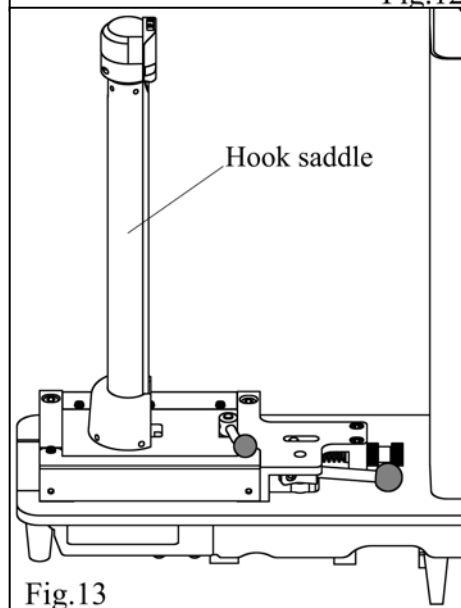
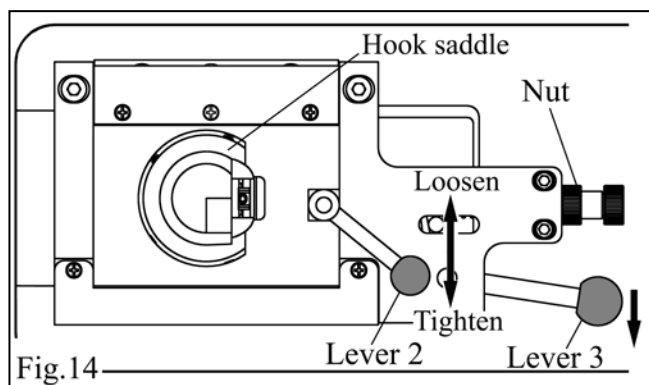

Fig.13
Fig.14
(1) Set the stitch length to “7” on the stitch length dial.
(2) When the needle is lifted 2.4mm from the lower dead point, the following positional relationship should be maintained:
12. TILT THE HOOK SADDLE(Fig.13, Fig.14)
When put material to be sewn onto or remove it from the hook saddle, the hook saddle can be tilted to operator. Loosen the lever 2 as fig.14, then press the lever 3 toward to operator as fig.14. The hook saddle can be tilted. The pressure of the lever 3 can be adjusted by the nut. After material put on or remove, push the hook saddle to the original position. And tighten the lever 2.